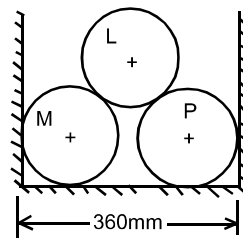

Fig. 1
1. (a) Three cylinders weighing 200N each and of 160mm diameter are placed in a channel of 360 mm width as shown in Fig. 1. Determine the pressure exerted by :